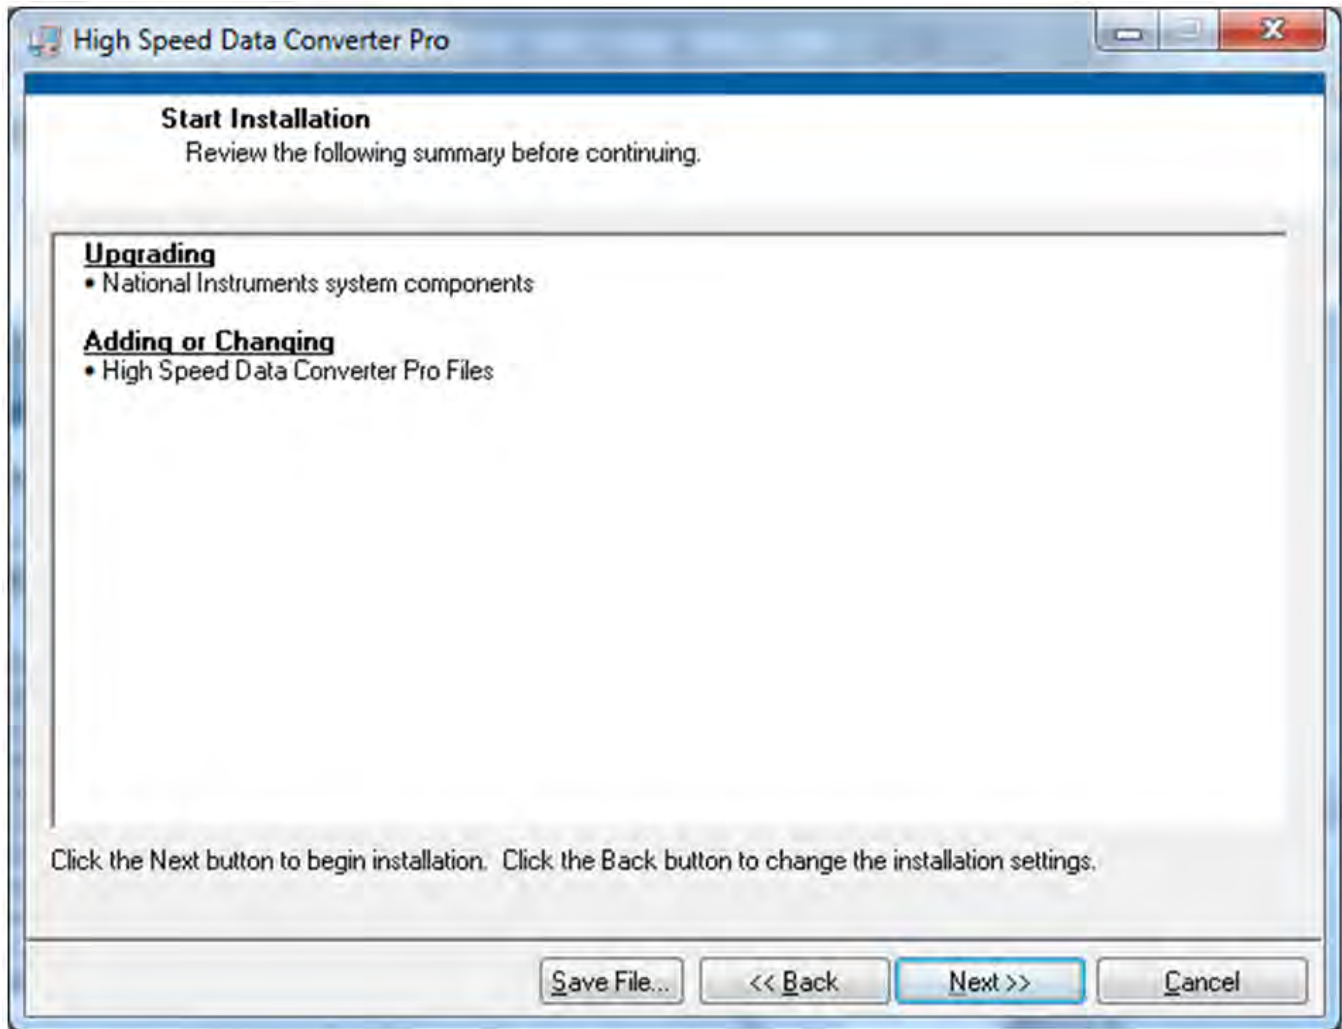

Figure 35. HSDCPro Install (Start Installation)
- Press the *Next* button as shown in Figure 35.